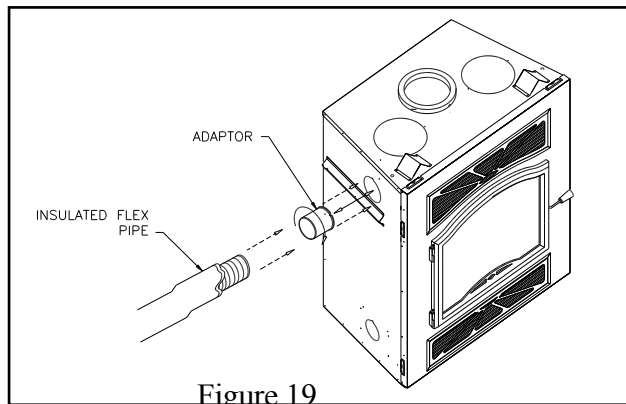

Figure 19
1. Fix the adaptor at the back and/or the side of the fireplace by twist-locking the adaptor to the fireplace. You can use more than one outlet on the fireplace (figure 19).